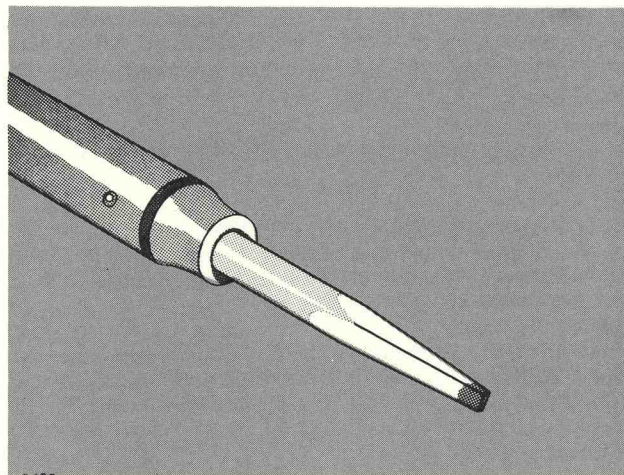

Fig. 4-1. Soldering iron tip properly shaped and tinned.
Because of the shape of the terminals on the ceramic strips it is advisable to use a wedge-shaped tip on your soldering iron when you are installing or removing parts from the strips. Fig 4-1 will show you the correct shape for the tip of the soldering iron. Be sure to file smooth all surfaces of the iron which will be tinned. This prevents solder from building up on rough spots where it will quickly oxidize.
2. Prepare the tip of the iron as shown in Fig. 4-1